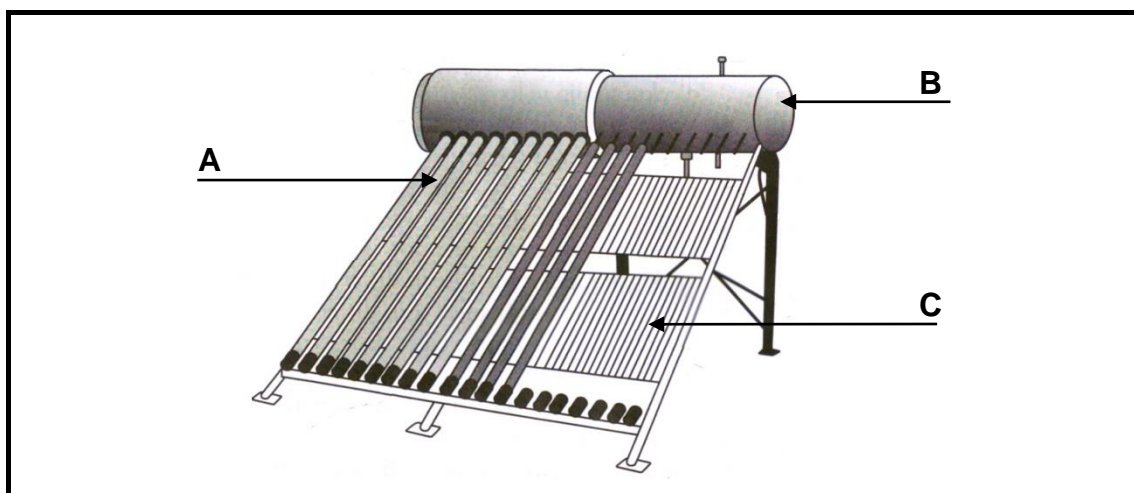

FIGURE 4.9
- 4.9 Answer the following questions with regard to the solar geyser in FIGURE 4.9.